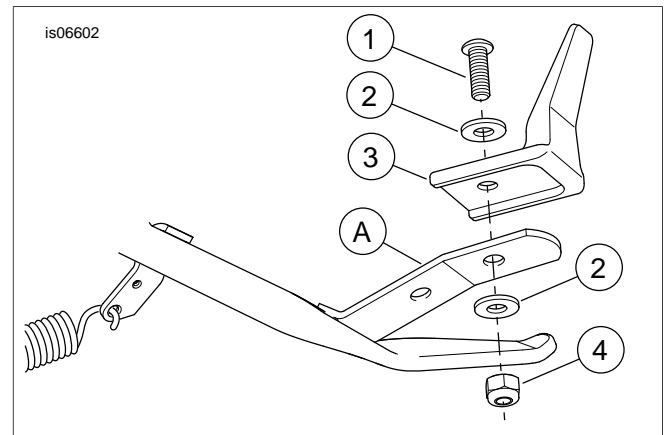

Figure 1. Service Parts: Jiffy Stand Extension
See Figure 1 and Table 1.
1. See Figure 1. Align extension (3) on top of the jiffy stand toe bracket (A). Mark the center of the hole location.
3. See Figure 1. Place extension (3) over jiffy stand toe bracket (A). Fasten extension to the toe bracket with screw (1), washers (2) and nut (4) as shown. Tighten to 6-8 ft-lbs (8.1-10.8 Nm).